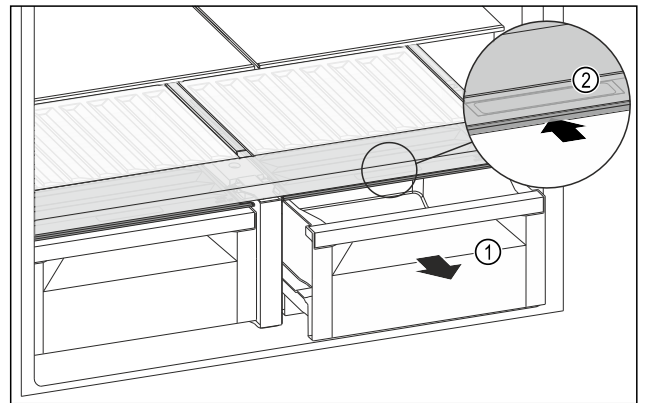

Fig. 127
- ▶ Pull out the drawer Fig. 127 (1).
- ▶ Grip the handle recess Fig. 127 (2) on the lid while pulling the lid backward at the same time.